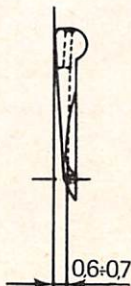

Fig. 22
- Allineare i crochet come in fig. 22.
- Align loopers as in fig. 22